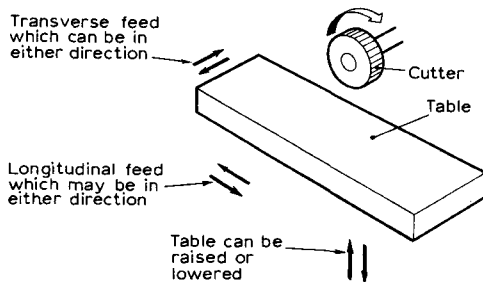

Fig. 4.221 Action of a horizontal milling machine
**Action of the horizontal milling machine.** The workpiece is held in a machine vice or a special fixture or it is clamped to the table. The cutting is performed by feeding the work under a revolving cutter. The table movements possible are shown in Fig. 4.221.